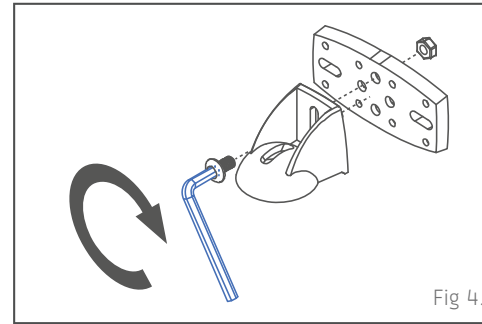

Fig 4.
- Push the socket joint piece into the mounting plate in the desired orientation (Fig 1-2 overleaf). Bolt pieces together using the short bolt and nut. Tighten using allen key supplied. (Fig 4.)